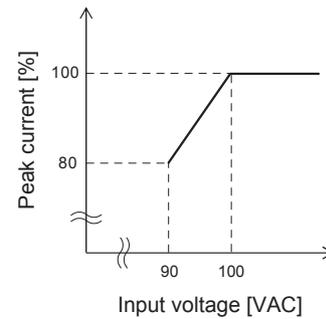

Fig.6.2 Peak current derating curve depending on input voltage
- $I_p \leq \text{Rated peak current}[\text{A}]$ Refer to Fig 6.2